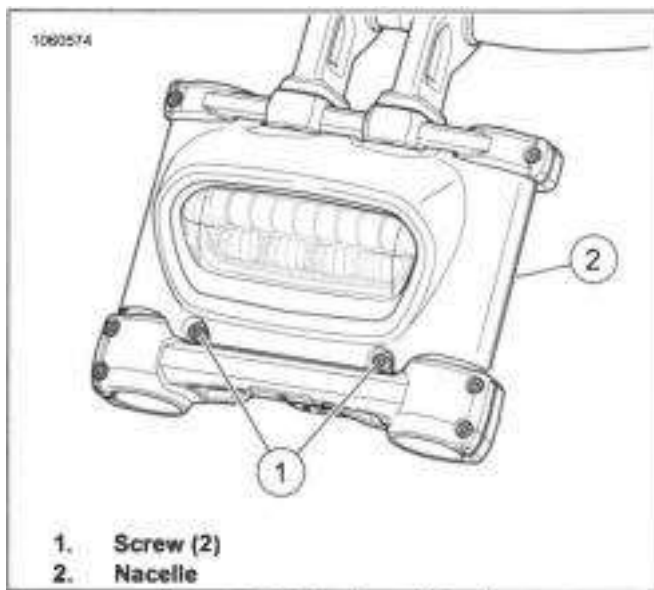
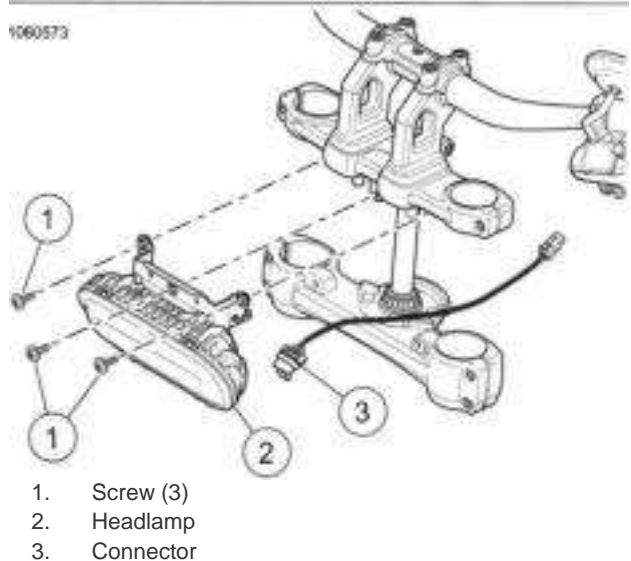

Figure 7-54. Headlamp Nacelle
Figure 7-55. Headlamp
1. See Figure 7-54. Remove screws (1).
2. Remove nacelle (2).
3. See Figure 7-55. Remove screws (1).
4. Disconnect connector (3).
5. Remove headlamp (2).
1. See Figure 7-55. Install headlamp (2).
2. Connect connector (3).
3. Install screws (1). Tighten.
4. See Figure 7-54. Install nacelle (2).
5. Install screws (1). Tighten.